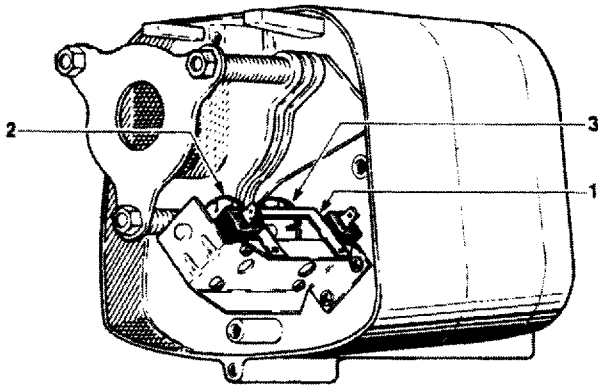

FIGURE 4-2. CHAIN REPLACEMENT
- 3) With a screwdriver, push the spring guide plate (#1) out of the slots in the plastic limit switch nuts. Turn the slotted nut nearest you (#2) back to about the center of the threaded screw. Do not disconnect the wires from the limit switches (See Figure 4-2).
4-6. Limit Switch Adjustment (Refer to Figure 4-2.)